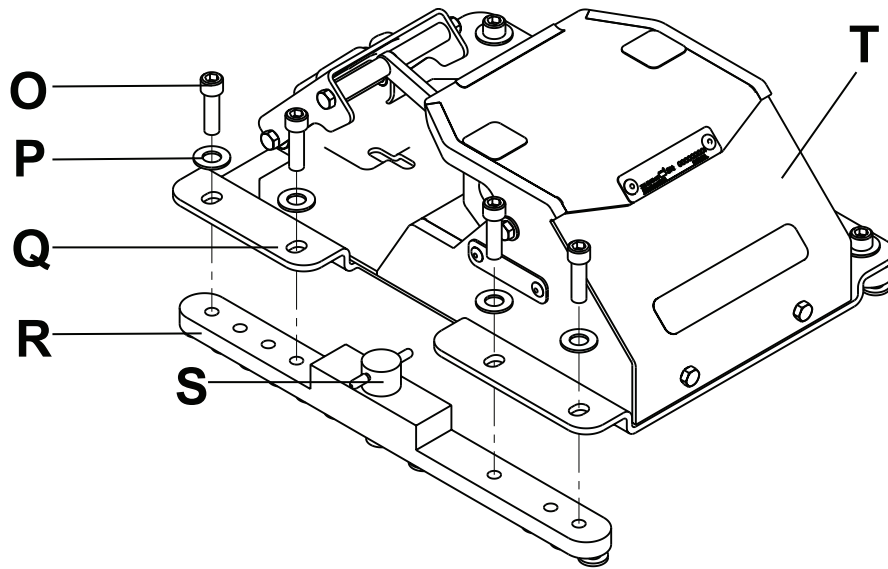
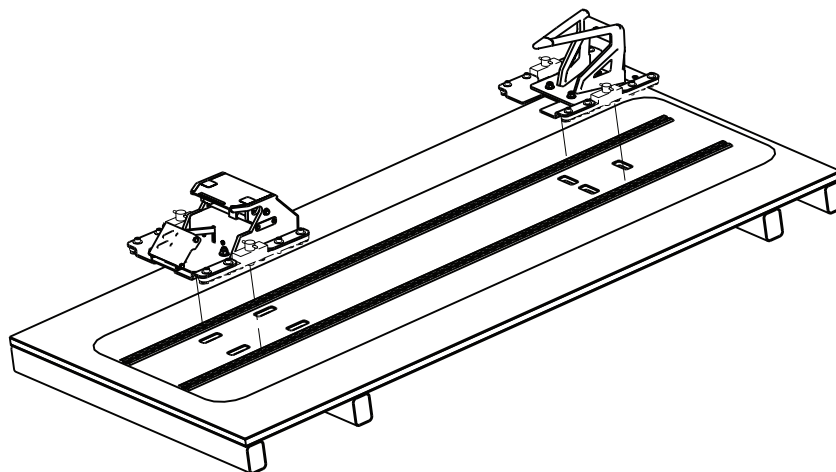

Figure 7 – Assemble the foot end fastener
Figure 8 – Head end and foot end fastener - floor track installation
1. Position the eight washers (P) between the eight screws (O) (four on each side) and the foot end fastener lock down base plate (Q) (Figure 7).
5. Turn the plunger key counter-clockwise to unlock the plunger on the **Unwin** adaptor (R) of the foot end fastener (T) (Figure 7).
6. Lift and turn the plunger key one half of a turn to disengage the plunger (S).
8. Turn the plunger key clockwise to engage the plunger and lock the **Unwin** adaptor (R) to the floor track.
9. Repeat steps 5-8 to install the head end fastener to the floor track (Figure 8).